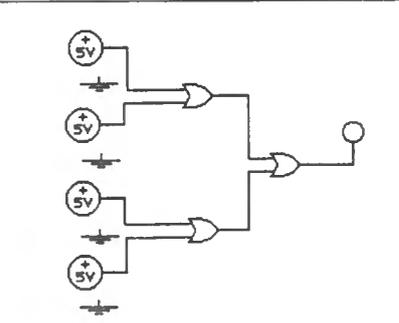

Fig. 7.22 Multiple-input OR gate (Assignment 7.2).
2. Connect the circuit shown in Fig. 7.22. The output of the circuit is connected to a logic level indicator whilst the four inputs are derived from +5V and ground points. Switch on the power and test the circuit by constructing its truth table.